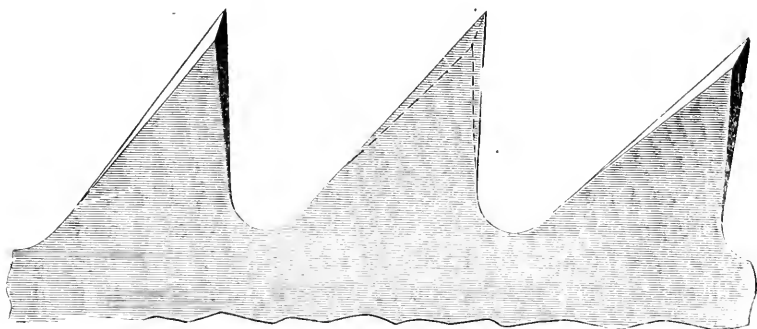
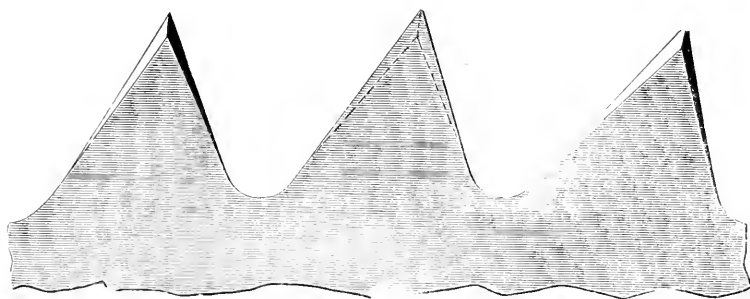

Fig. 27— FOR SOFT WOOD
Fig. 28— FOR HARD WOOD
**27. Fitting Cut-off Saws--** Cut-off saws are set in the same manner as the briar-dress rip saw. In fact, they are fitted in the same manner, except that the teeth are given more bevel both front and back. The proper shape of the tooth for soft woods is shown in Fig. 27, the proper shape for hard wood in Fig. 28. When gullets are cut as illustrated in Figs. 27 and 28 they require frequent gumming.